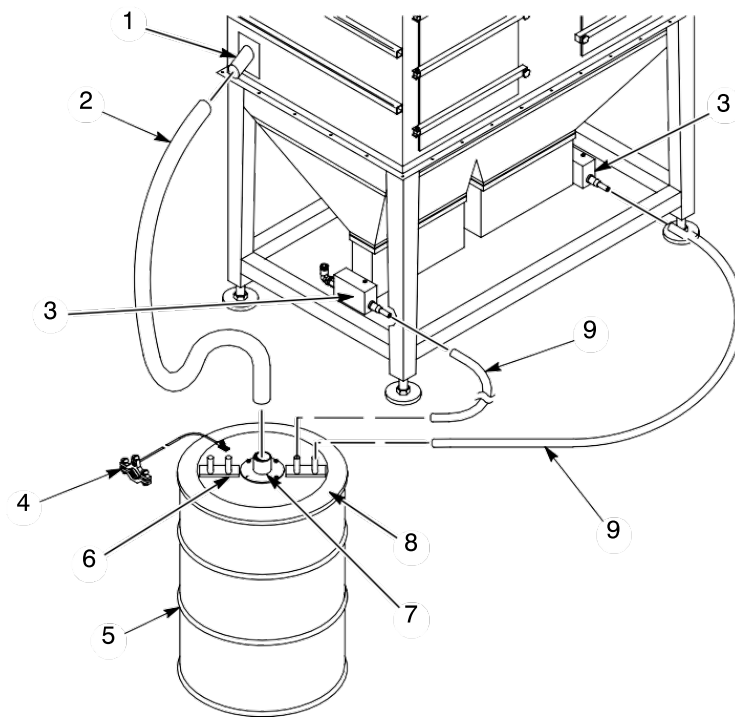

Figure 4-3 Cyclone Transfer Pan
1. See Figure 4-3. Install the waste lid (8) on an empty 55-gallon drum (5).
2. Connect the ground clamp (4) to a true earth ground.
3. Attach 3/4-in. transfer hoses (9) between the transfer pumps (3) and the hose connectors (6) on the waste lid. Use hose clamps on both ends of the transfer hoses.
4. Attach the vent hose (2) to the waste lid vent stub (7). Attach the other end of the vent hose to the after filter vent stub (1).